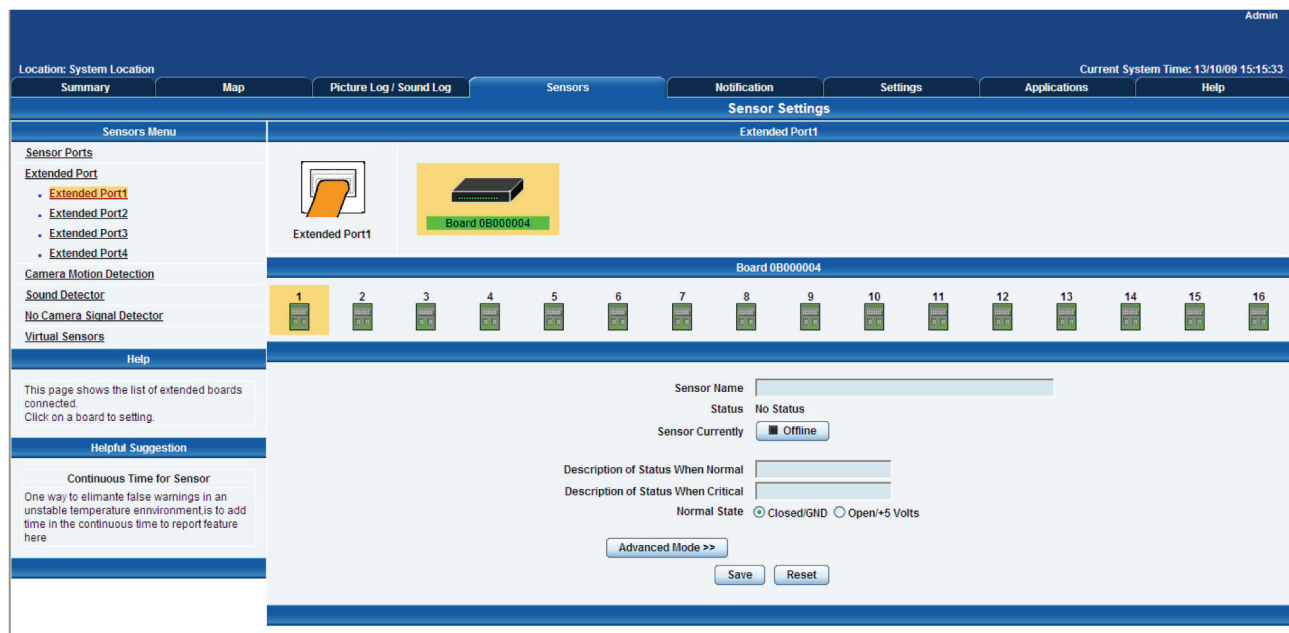

Figure 3-9. Sensor Settings page.
7. The page shown in Figure 3-9 appears.